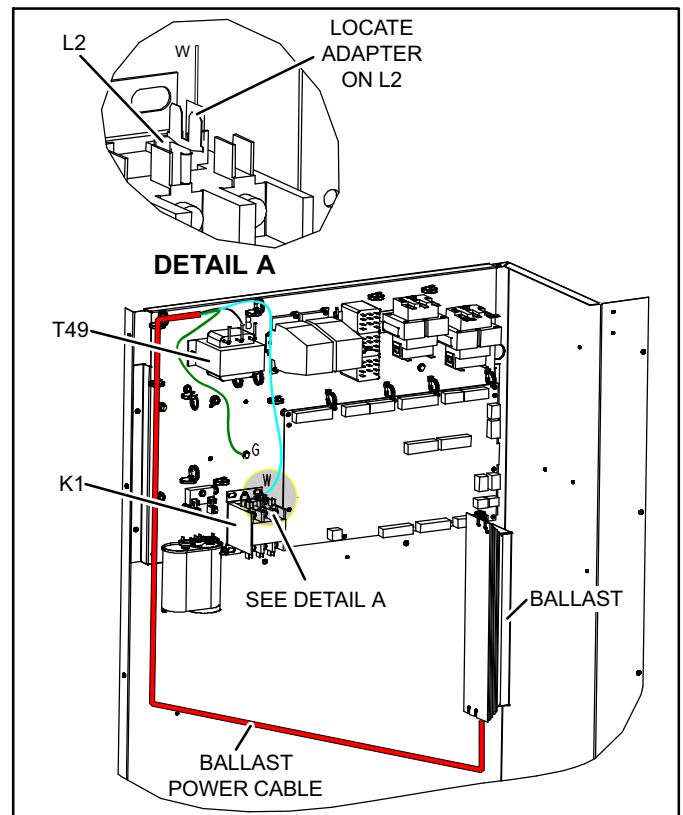

**Figure 5. Connect cable to transformer T1 (230 Volt units)**
- A** For all 230V rooftop models, connect the black and white conductors of the ballast power cable to transformer T1 using (2) quick-connect adapters included in the kit. Connect the green GROUND ring connector to the extruded hole on the panel (see figure 5).